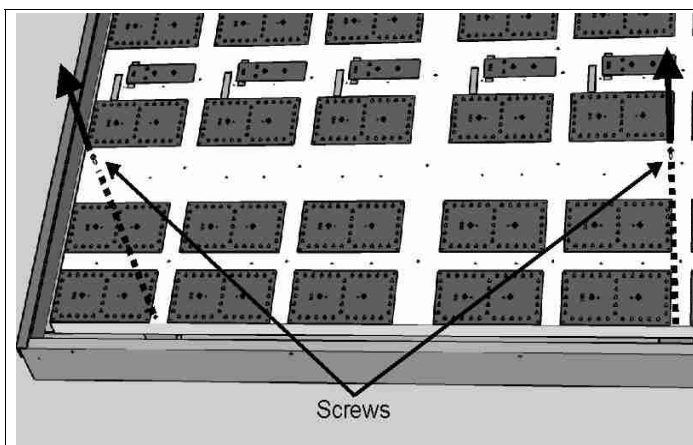

Fig. 14: Screws of the LED display board support
4. With a Phillips screwdriver remove the two screws from the right side of the metal support of the LED display boards (Fig. 14).